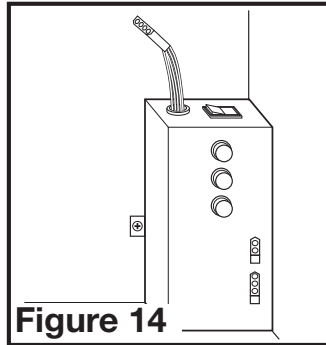

Figure 14
- 3d. **MOTION AND HUMIDITY SENSING MODELS:** Plug the fan's 2 pin and 3 pin quick connect motor cords into the receptacles located on the side of the wire compartment. Plug the 4 pin quick connect cord from the motion sensor on the grill into the receptacle coming out of the top of the wire compartment. These cords will only fit one way into the receptacles (**Figure 14**).